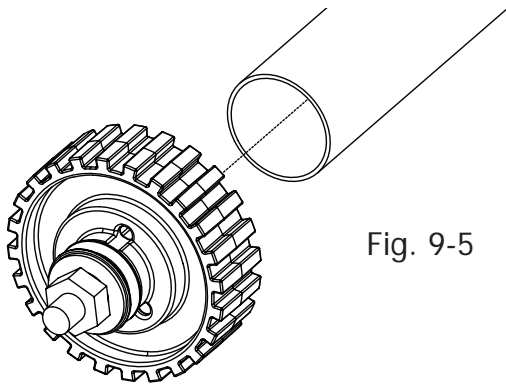
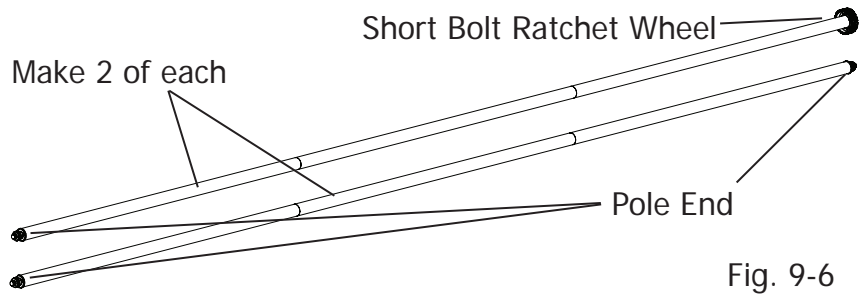

Fig. 9-5
Fig. 9-6
9-7: Now attach remaining pole ends (2) and short bolt ratchet wheel assemblies (2) to the opposite ends of four pole assemblies. To attach your ratchet assemblies, follow **Steps 9-4 and 9-5** and see Fig. 9-5. Proceed until your completed poles look like Fig. 9-6 above. Two poles will have a Pole End on each end. Two poles will have one Pole End and one Short Bolt Ratchet Wheel on each end.